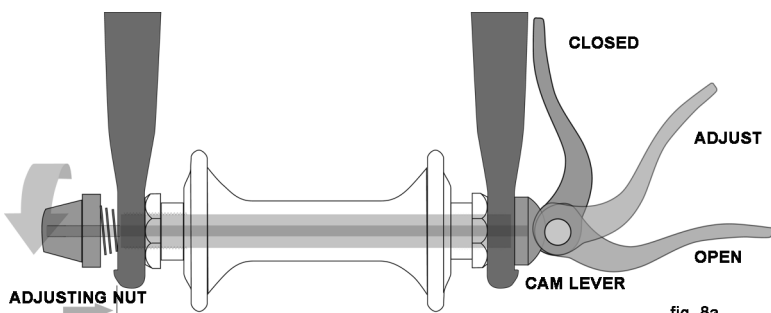
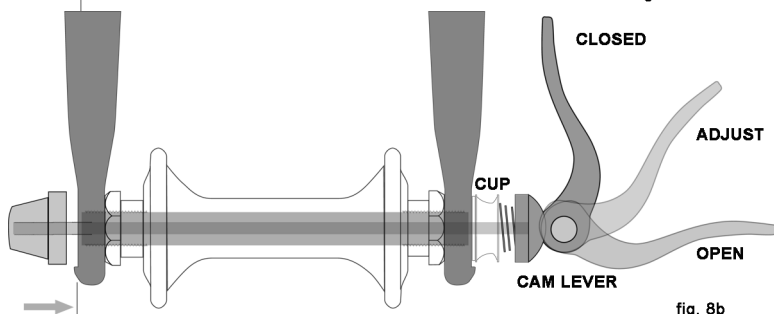

fig. 8a
fig. 8b
There are currently two types of over-center cam wheel retention mechanisms: the traditional over-center cam (fig. 8a) and the cam-and-cup system (fig. 8b). Both use an over-center cam action to clamp the bike's wheel in place. Your bicycle may have a cam-and-cup front wheel retention system and a traditional rear wheel cam action system.
a. Adjusting the traditional cam action mechanism (fig. 8a)
b. Adjusting the cam-and-cup mechanism (fig. 8b)
(2) If your bike has cam action front wheel retention, move the cam lever from the locked or CLOSED position to the OPEN position (figs. 8a & b). If your bike has through bolt or bolt-on front wheel retention, loosen the fastener(s) a few turns counter-clockwise using an appropriate wrench, lock key or the integral lever.
(3) If your front fork has a clip-on type secondary retention device, disengage it. If your front fork has an integral secondary retention device, and a traditional cam action system (fig. 8a) loosen the tension adjusting nut enough to allow removing the wheel from the dropouts. If your front wheel uses a cam-and-cup system, (fig. 8b) squeeze the cup and cam lever together while removing the wheel. No rotation of any part is necessary with the cam-and-cup system.
(1) If your bike has cam action front wheel retention, move the cam lever so that it curves away from the wheel (fig. 8b). This is the OPEN position. If your bike has through bolt or bolt-on front wheel retention, go to the next step.
(2) With the steering fork facing forward, insert the wheel between the fork blades so that the axle seats firmly at the top of the fork dropouts. The cam lever, if there is one, should be on rider's left side of the bicycle (fig. 8a & b). If your bike has a clip-on type secondary retention device, engage it.
(3) If you have a traditional cam action mechanism: holding the cam lever in the ADJUST position with your right hand, tighten the tension adjusting nut with your left hand until it is finger tight against the fork dropout (fig. 8a). If you have a cam-and-cup system: the nut and cup (fig. 8b) will have snapped into the recessed area of the fork dropouts and no adjustment should be required.
(4) While pushing the wheel firmly to the top of the slots in the fork dropouts, and at the same time centering the wheel rim in the fork
(a) With a cam action system, move the cam lever upwards and swing it into the CLOSED position (fig. 8a & b). The lever should now be parallel to the fork blade and curved toward the wheel. To apply enough clamping force, you should have to wrap your fingers around the fork blade for leverage, and the lever should leave a clear imprint in the palm of your hand.
(3) On a derailleur gear system, pull the derailleur body back with your right hand.
(4) With a cam action mechanism, move the quick-release lever to the OPEN position (fig. 8b). With a through bolt or bolt on mechanism, loosen the fastener(s) with an appropriate wrench, lock lever or integral lever; then push the wheel forward far enough to be able to remove the chain from the rear sprocket.
(5) Lift the rear wheel off the ground a few inches and remove it from the rear dropouts.
Some bikes are equipped with a cam action seat post binder. The seat post cam action binder works exactly like the traditional wheel cam action fastener (Section 4.A.2). While a cam action binder looks like a long bolt with a lever on one end and a nut on the other, the binder uses an over-center cam action to firmly clamp the seat post (see fig. 8a).